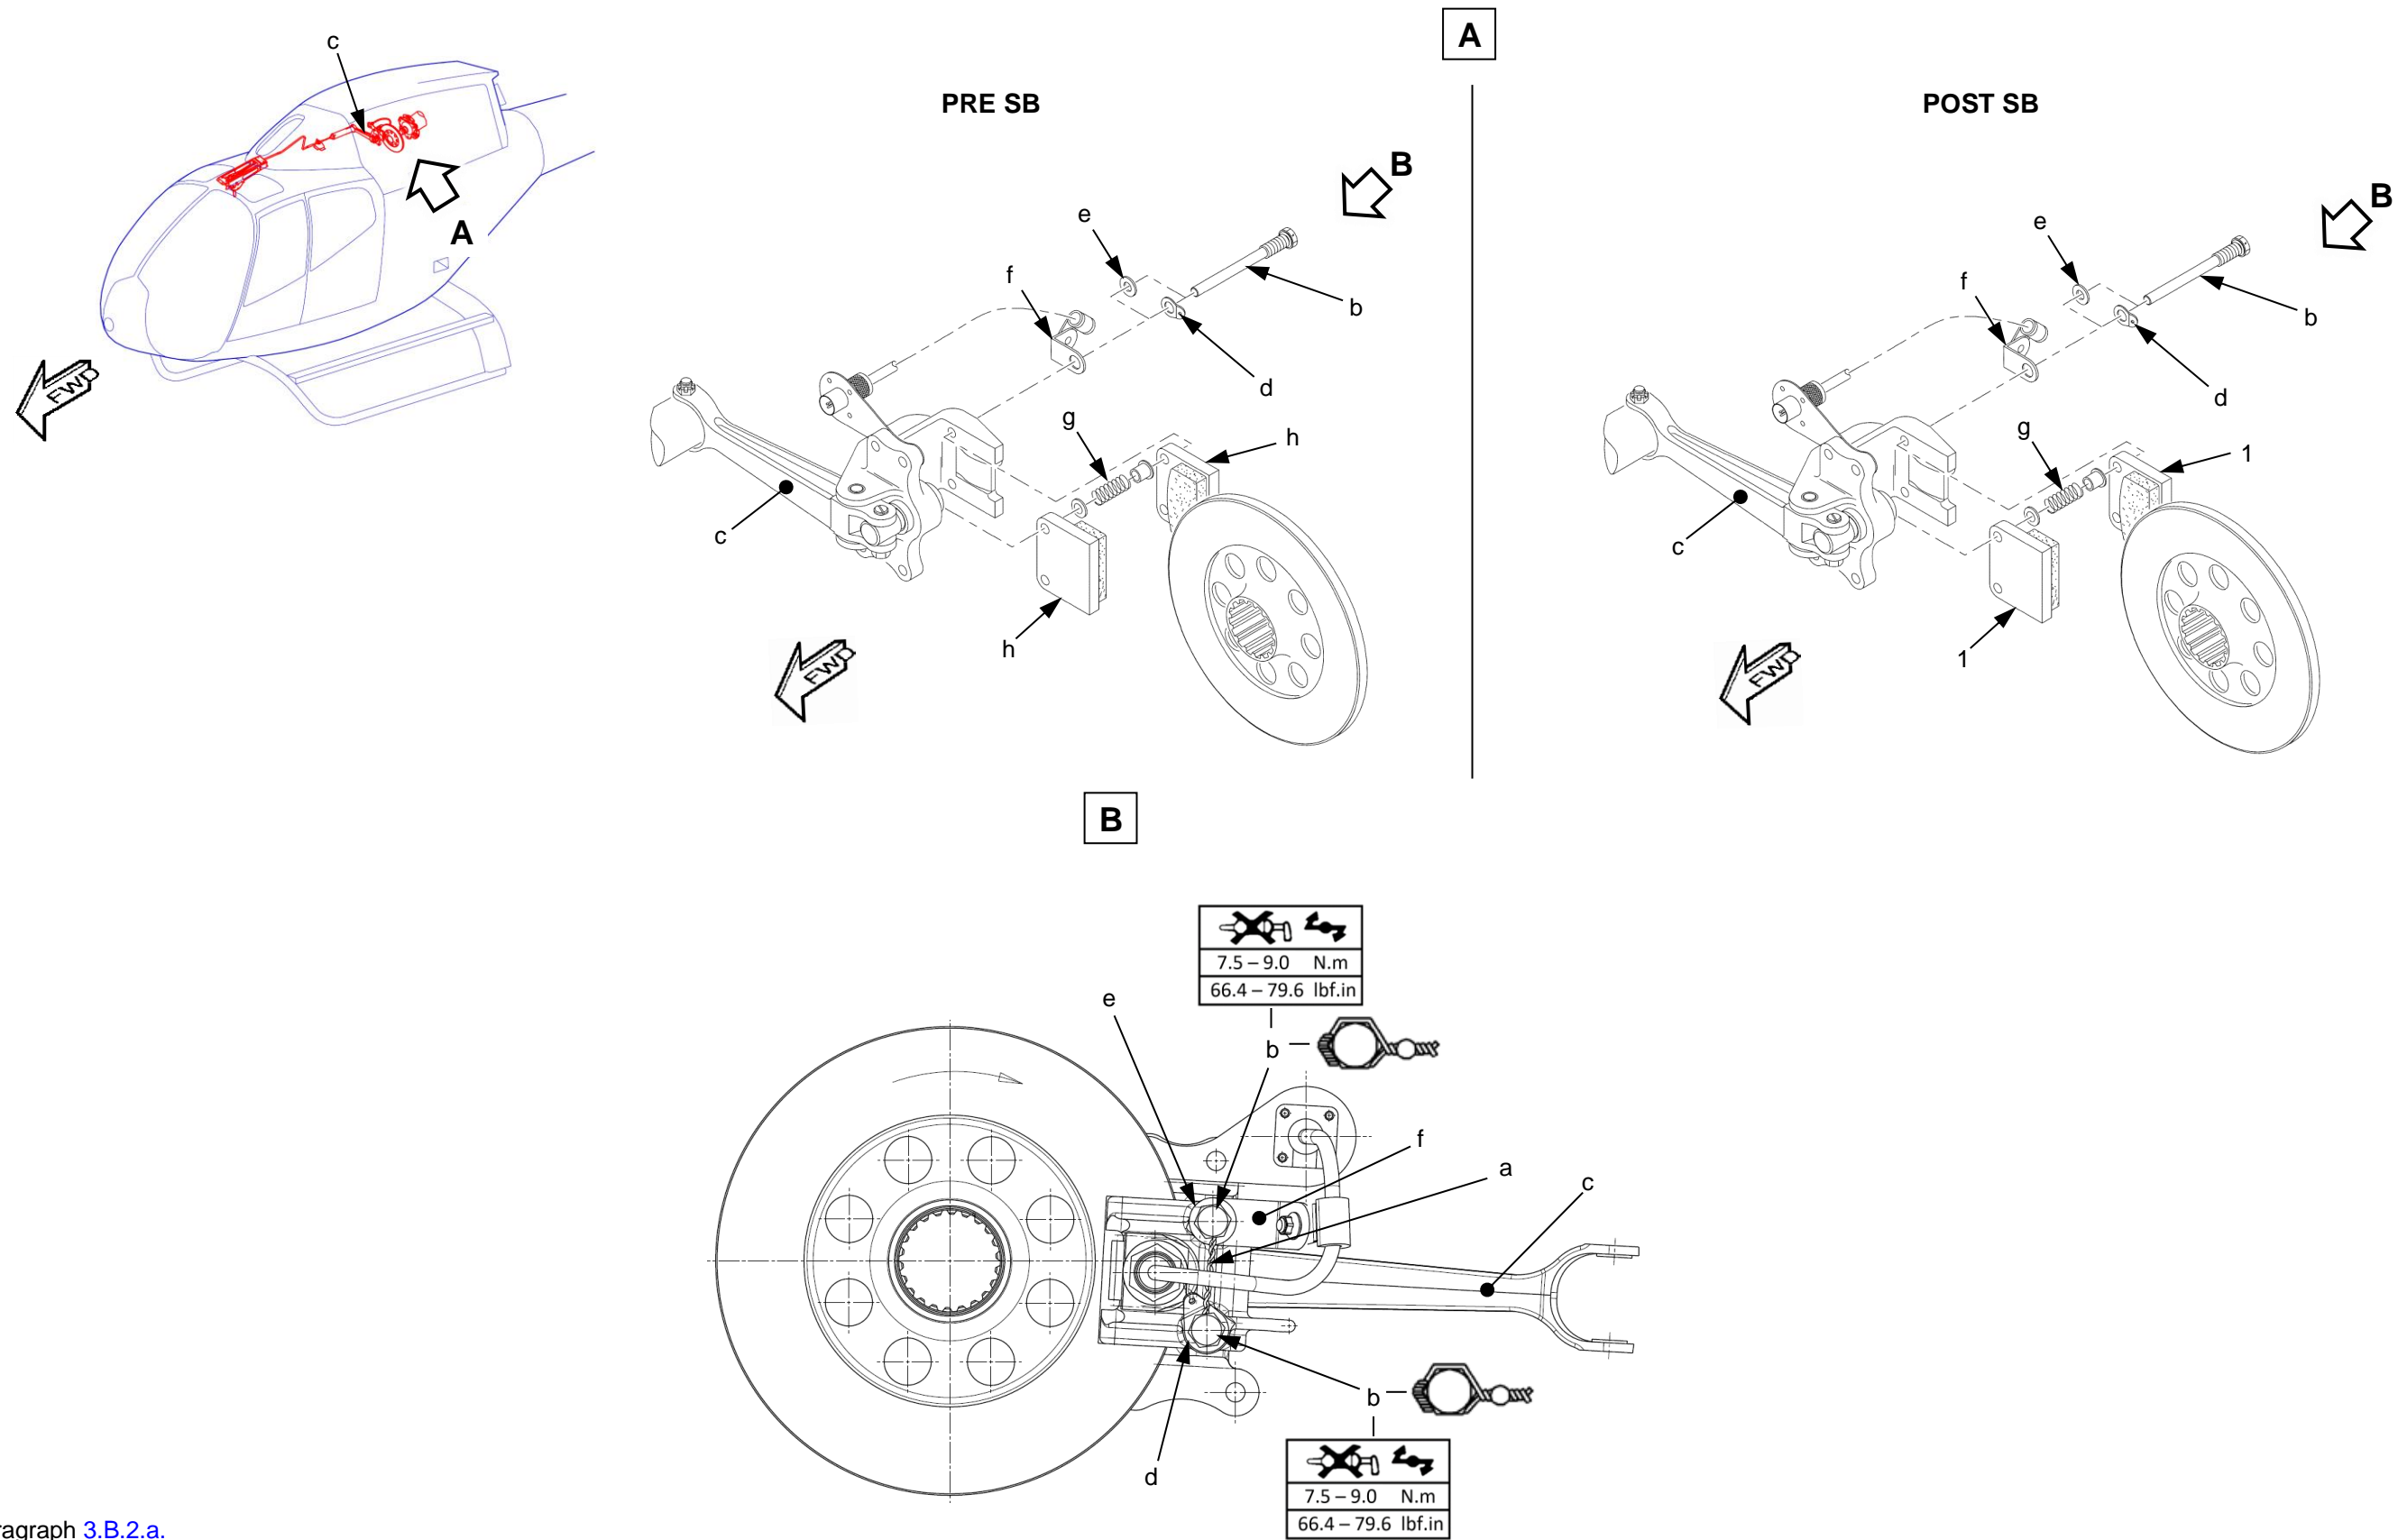

Figure 1
3.B.2.a. Removal of the rotor brake pads (Figure 1)
3.B.2.b. Installation of the rotor brake pads (Figure 1)
- . The brake pads (1) (DETAIL A, POST SB)
- Safety the bolts (b) with the lockwire (2) (DETAIL B). Refer to Work Card 20-02-06-402 (MTC).